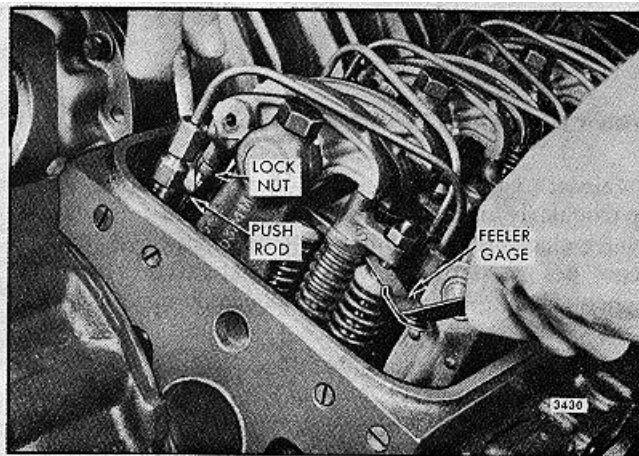

FIG. 2 - Adjusting Valve (Clearance) (Spring-Loaded Valve Bridge)
5. Place a .017" feeler gage, J 9708-01, between the end of the exhaust valve stem and the valve bridge adjustment screw (spring-loaded bridge only) or between the valve bridge and the valve rocker arm pallet (unloaded bridge only) -- refer to Figs. 2 and 3. Adjust the push rod to obtain a smooth pull on the feeler gage.